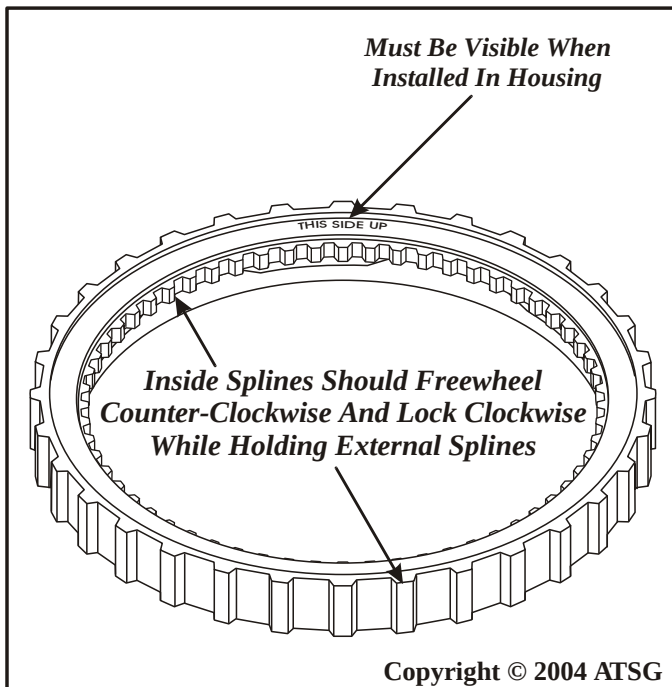

Figure 97
3. Inspect coast clutch pressure plate which now incorporates the mechanical diode one way clutch, as shown in Figure 97.
- Note: Inside splines should freewheel in the direction shown in Figure 97, and lock in the opposite direction.**
Note: The words "This Side Up" must be visible after installation (See Figure 97).